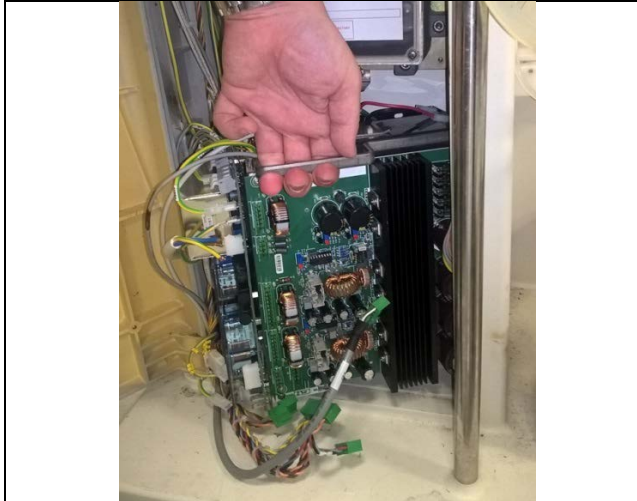

Fig. 13
- Grab the PSU using the metal handle welded on the PSU box (**Fig. 13**);
- Lift up the PSU and reinsert it inside the machine (**Fig.13**).